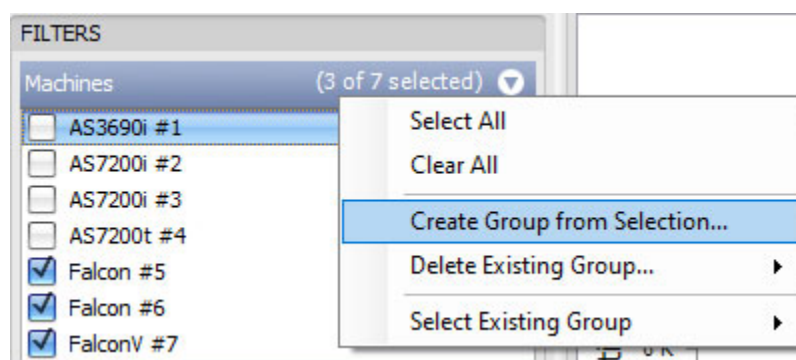

Figure 5-10: Create Group from Selection
2. Right-click on the filter heading, and a filter tools menu will open (Figure 5-10).
3. In the filter tools menu, click **Create Group from Selection** (Figure 5-10).